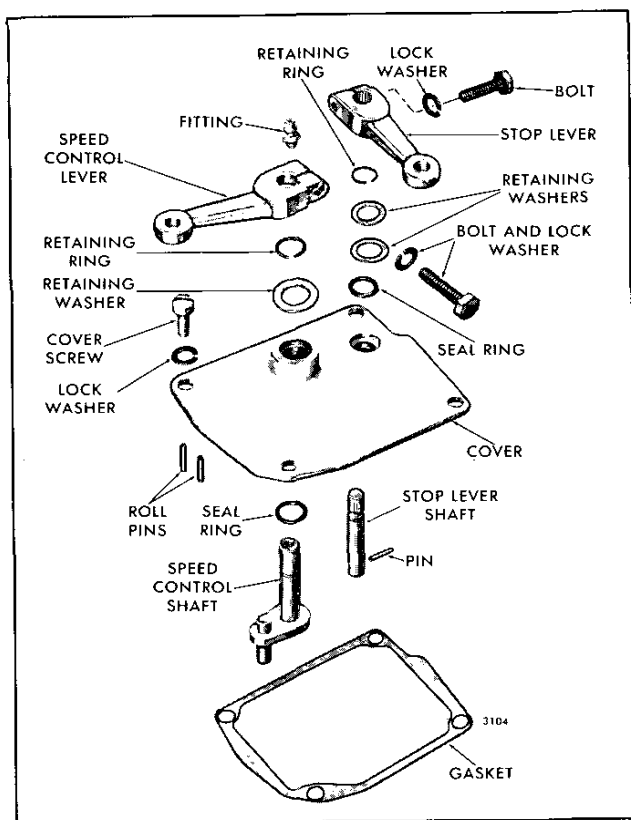

Fig.3 – Governor Cover Details and Relative Location of Parts
1. Remove the return spring and clip from a single lever cover only, then loosen the governor speed control lever retaining bolt and lift the control lever from the speed control shaft (Fig. 3).